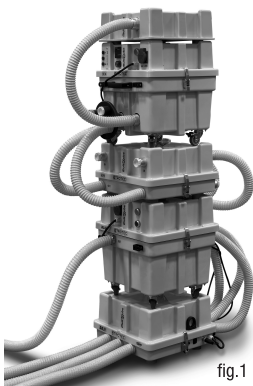
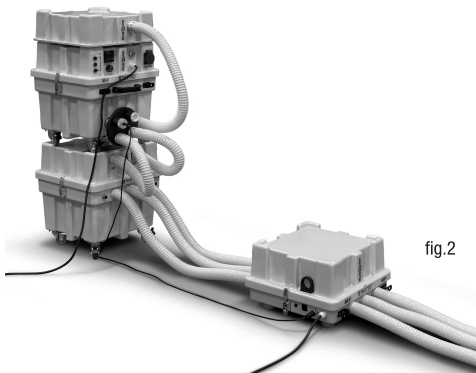

fig.1
fig.2
5. Use the screw adapter to connect the moisture sensor to the inlet of the quad distributor at the compressor. (fig.2)
The DA 3i can be installed as the bottom element of the MultiQube tower (fig.1). Alternatively, it can also be installed separately closer to the core drill holes (fig.2).